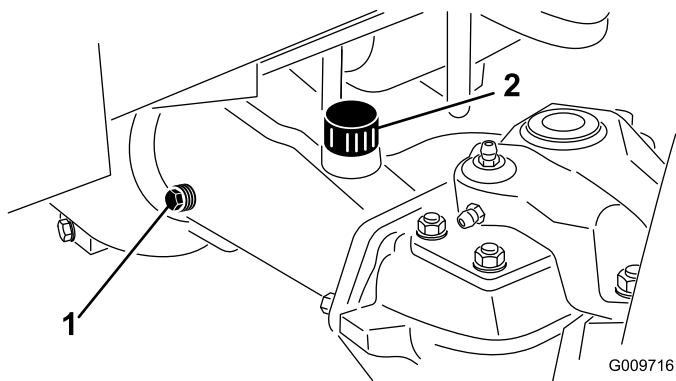

Figure 56
2. Remove a check plug from 1 end of the axle (Figure 56) and make sure that the lubricant is up to the bottom of the hole.
Note: If the level is low, remove the fill plug (Figure 56) and add enough lubricant to bring the level up to the bottom of the check plug holes.